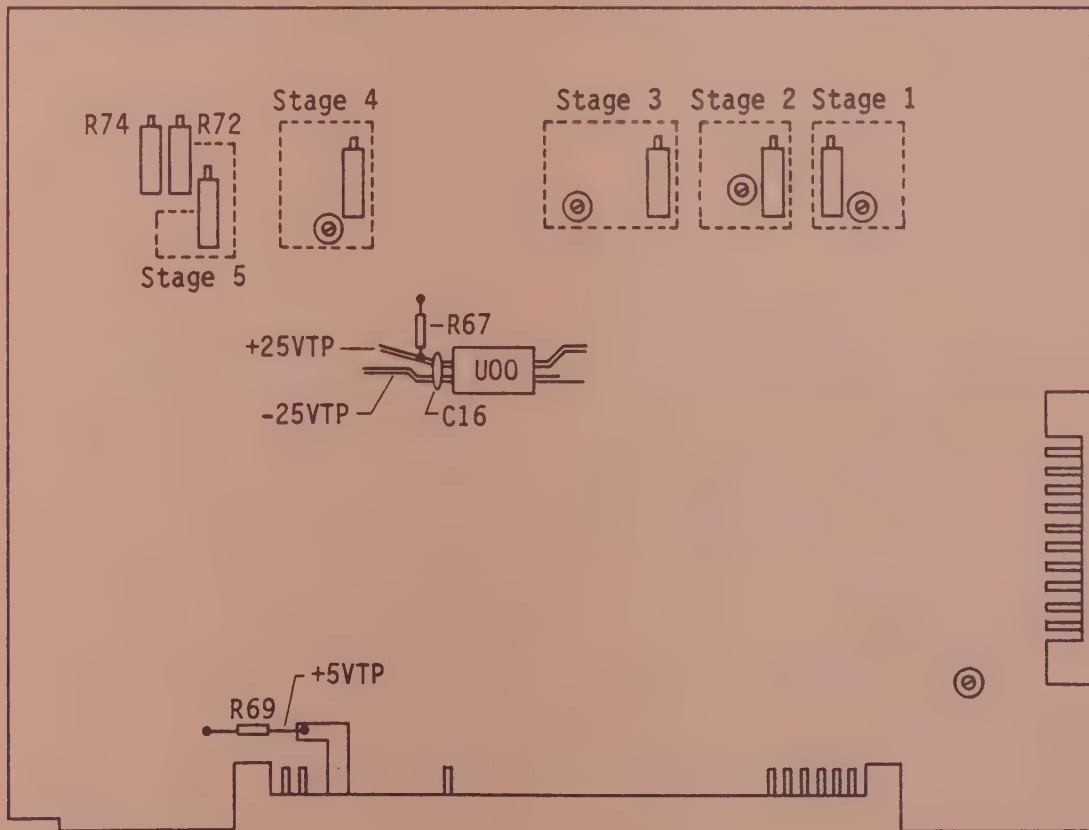

Figure 3-2
3.1.2. Measure the voltage at +5VTP, (Figure 3-2).
3.1.5. Measure the voltage at +25VTP, (Figure 3-2).
(See Figure 3-2)
3.1.7. Measure the voltage at -25VTP, (Figure 3-2).